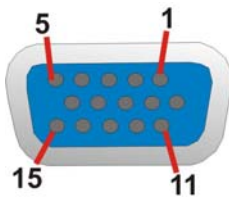

Figure 3-17: VGA Connector
- CN Pinouts:** See **Figure 3-17** and **Table 3-18**